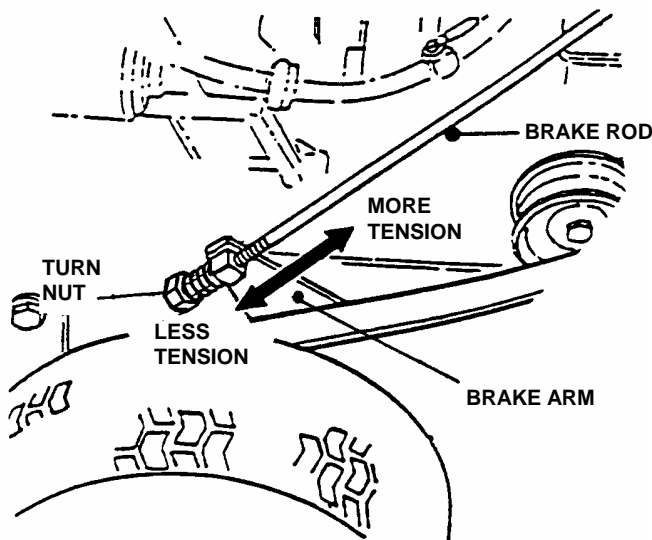

FIGURE 5.1
3. Turn nut clockwise to increase brake tension. See Figure 5.1.
1. Move the machine to a smooth, level surface and turn the engine OFF. Release the traction locks. Disconnect the Brake Rods from the Brake Arms. See Figure 5.1.